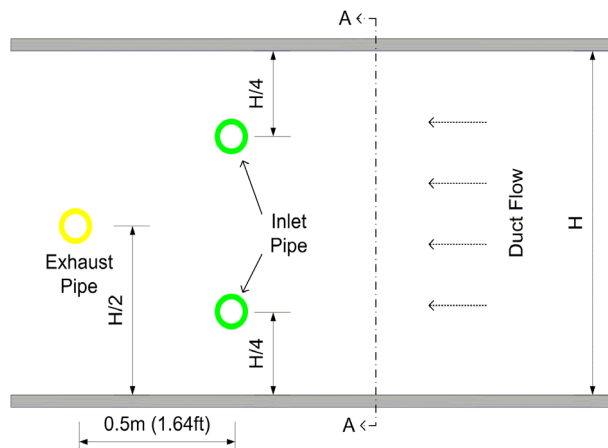

Figure 5: Side view of the inlet and exhaust pipe positions for a large duct.
Large ducts are defined as those with widths of 1 to 2 m (3.28 to 6.56 ft). For these ventilation ducts, it is recommended that the inlet pipe of the smoke detector be in two branches. The figure below (Figure 5) shows a side view of a duct section with the relative insertion points for the inlet and exhaust pipes. The two inlet branches are located at a quarter of the height (H) of the duct with the exhaust pipe inserted mid-height approximately 0.5 m (1.64 ft) downstream of the inlet pipes.